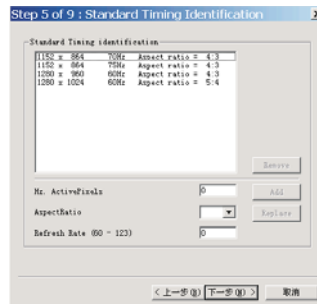

Fig. 39
- 4. Click Next, bring up Fig. 39.